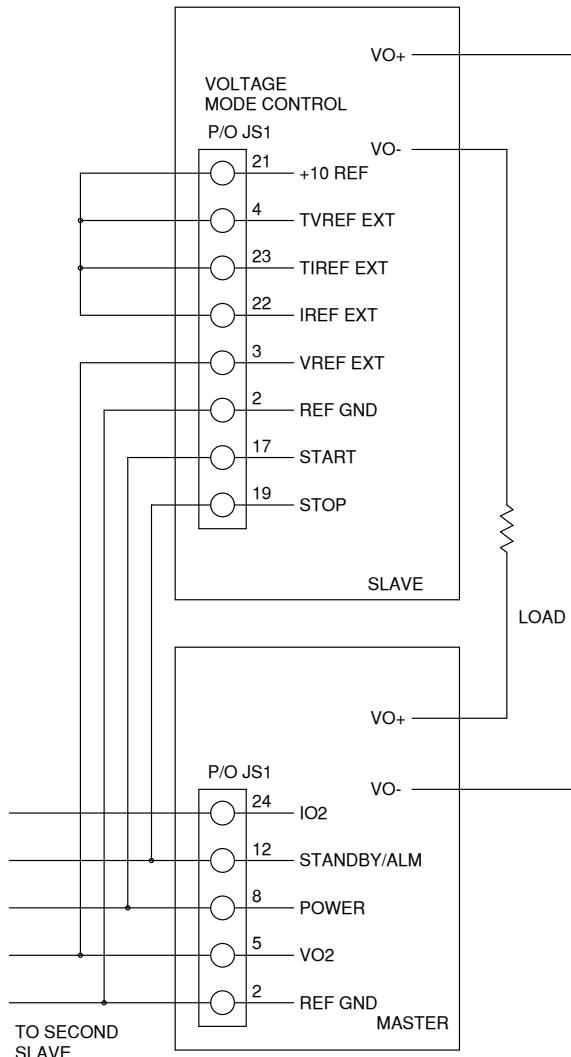

Figure 3.29. Master/Slave series connection
*Figure 3.29, "Master/Slave series connection"* illustrates the terminal connection for master/slave series operation and salient control circuitry. The control cable can be fabricated by the user or purchased as an option, UID47, from the factory. These connections perform the following functions: